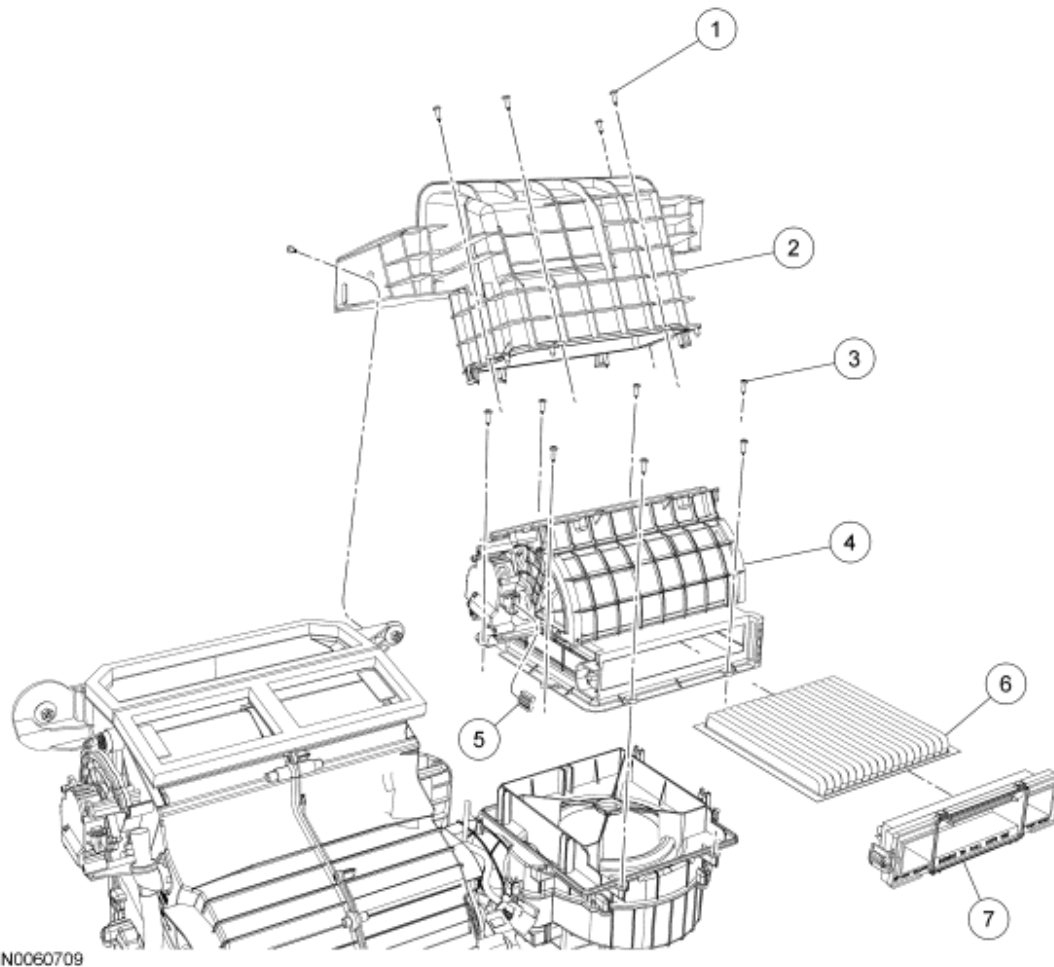

Fig. 1: Exploded View Of Air Inlet Duct
2. Remove filter cover (7). See **Fig. 1**
3. Remove cabin air filter (6) See **Fig. 1**